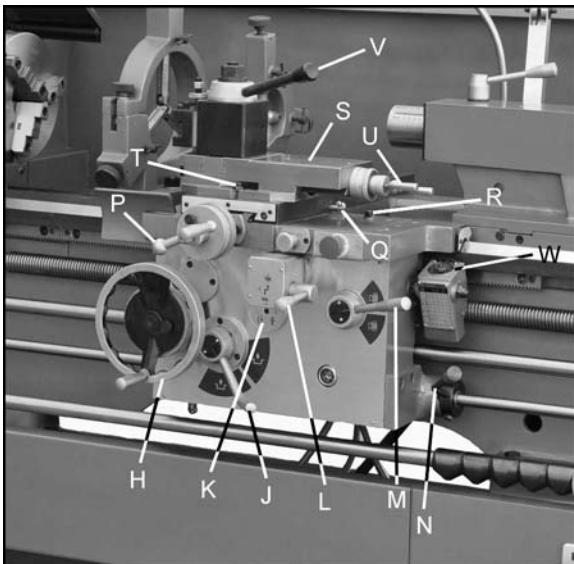

Figure 16 – Carriage controls and settings
5. **Carriage Handwheel (H, Figure 16):** Located on apron assembly. Rotate handwheel clockwise to move carriage toward tailstock (right). Rotate handwheel counterclockwise to move carriage toward headstock (left).
6. **Feed Engagement Lever (J, Figure 16):** Located on front of apron assembly. Pull lever up to engage. Push lever down to disengage.
7. **Adjustable Feed Clutch (K, Figure 16):** When the machine is overloaded, it can slip. Then cutting rate must be reduced. **Note:** This setting has been calibrated at the factory and should not need adjustment. If adjustment ever becomes necessary, follow the diagram on the front of the apron.
8. **Longitudinal/Cross Feed Selector Lever (L, Figure 16):** Can be pushed to upper, middle and lower three positions. Push the lever up, cross feed is effected. Push the lever down, longitudinal feed is effected. When the lever is in the middle position, screws can be cut by engaging the half nut.
9. **Half Nut Lever (M, Figure 16):** Located on front of apron assembly. Used for threading.
10. **Spindle Direction Control Lever (N, Figure 16):** Move lever to the right so that its tab clears the notch, then *downward* for forward spindle rotation, or *upward* for reverse spindle rotation. **Allow spindle to come to a stop before changing directions.** Position lever in neutral position (tab in notch) before shutting off the lathe.
11. **Cross Slide Handwheel (P, Figure 16):** Located above the apron assembly. Clockwise rotation moves cross slide toward rear of machine.
12. **Cross Slide Lock (Q, Figure 16):** Lever located on left side of cross slide. Turn clockwise to lock and counterclockwise to unlock.
13. **Carriage Lock (R, Figure 16):** Located on top right of carriage. Turn clockwise to lock, counterclockwise to unlock.
14. **Compound Rest (S, Figure 16):** Located on top of cross slide and can be rotated 360°. There are calibrations in degrees (T, Figure 16) below the rest to assist in placement of the compound rest to the desired angle.
15. **Compound Rest Handle (U, Figure 16):** Located on end of compound slide. Rotate clockwise or counterclockwise to position.
17. **Tool Post Clamping Lever (V, Figure 16):** Located on top of tool post. Rotate counterclockwise to loosen and clockwise to tighten.
18. **Thread Chaser (W, Figure 16):** Indicates the point on the leadscrew where the half nut can be re-engaged to continue inch threading.